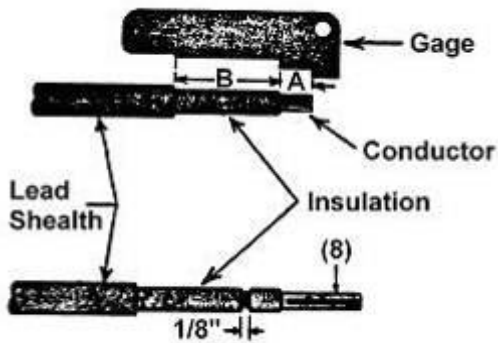

Figure 32
- D. Sweat Plug Contact – (8) onto cable, Figure 32. To prevent migration of petrolatum, apply two tightly half-lapped layers of dacron-glass tape, T3V, on the exposed conductor, insulation and ½ inch of lead sheath.